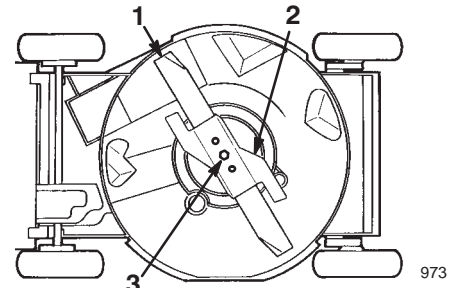

Figure 30
4. Tip the lawn mower on its **left** side (air filter up) (Fig. 30).